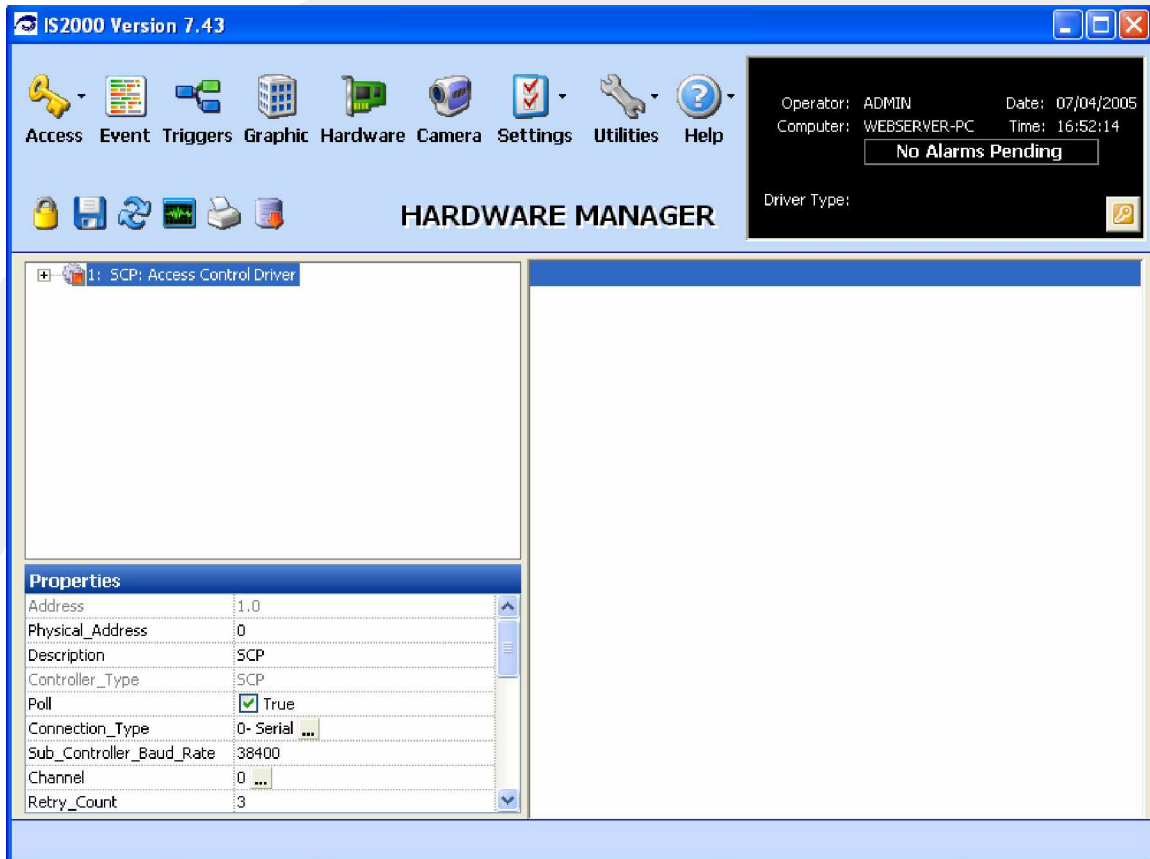

Figure 2 - Example Screen
- **Command Toolbar** (second row) – Displays module dependent commands. For example, the Hardware Manager consists of the commands shown in Figure 2.